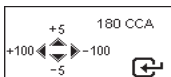

Fig.27
5. To adjust the CCA value, press ◀ or ▶ key will increase or decrease the value by 100 while ▲ or ▼ key will increase or decrease the value by 5 as shown in Fig.27 below.